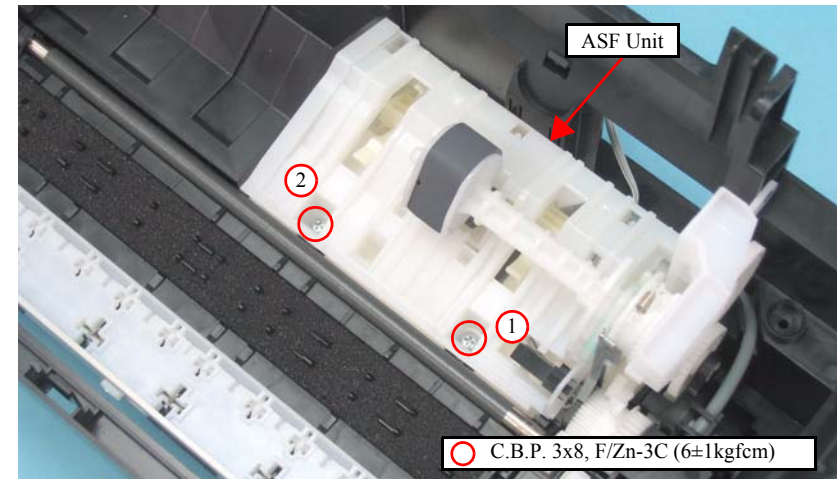

Figure 4-93. Removing the ASF Unit (1)
- Tighten the screws in the order given in Figure 4-93.